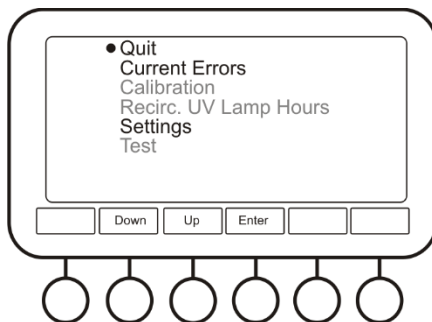

Fig. 5. Service menu
4.9.3. **Service** (fig. 5). This submenu has available options **Current Errors** and **Settings**.